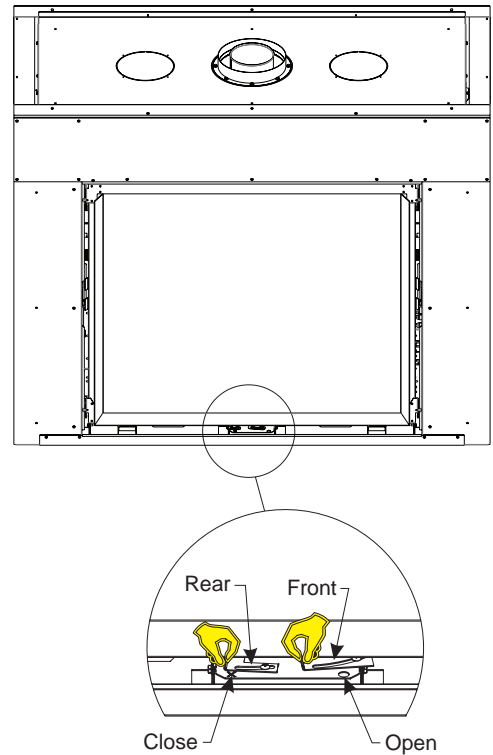

Figure 55
5. You may now adjust the air shutters. The right air shutter handle adjusts the front air shutter and the left air shutter handle adjusts the rear air shutter. Slide the air shutter handle towards the right to open and to the left to close. **See Figure 55.**